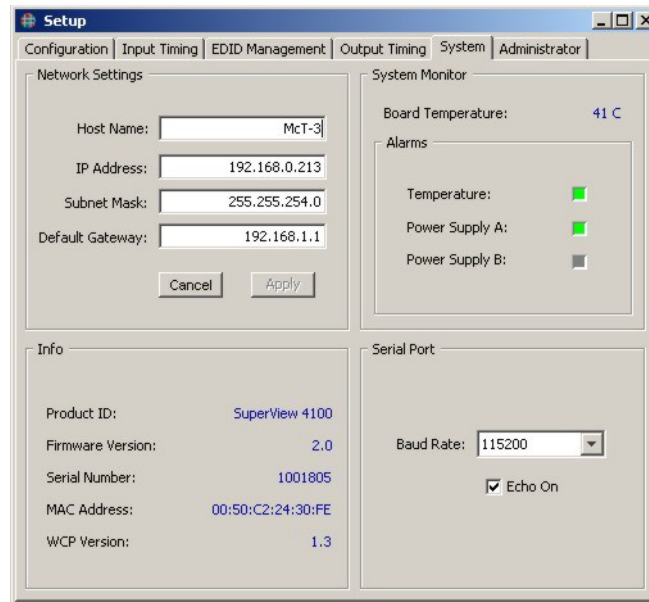

Figure 4-12 Setup System Tab
The **System** tab is shown in Figure 4-12.
2. Select the **System** tab (Figure 4-12).
2. Select the **System** (Figure 4-12).